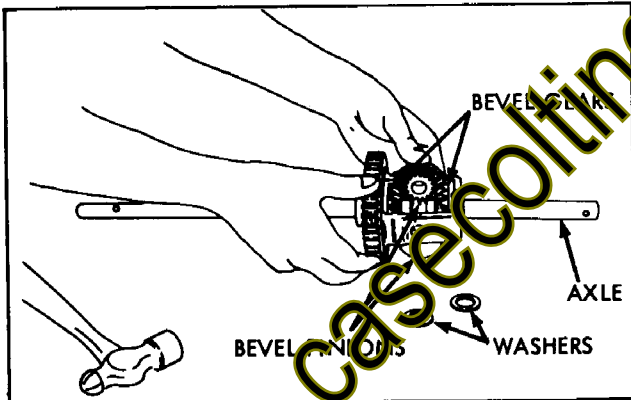

Figure 35
- (c) Install bevel pinions **SIMULTANEOUSLY FROM OPPOSITE SIDES** by rotating pinions in opposite directions while sliding into position in gear assembly. See Figure 35. Check alignment by inserting fingers into drive pin holes. If not aligned, drive pin cannot be inserted. Remove and replace bevel pinions as only one tooth out of position will cause mis-alignment.